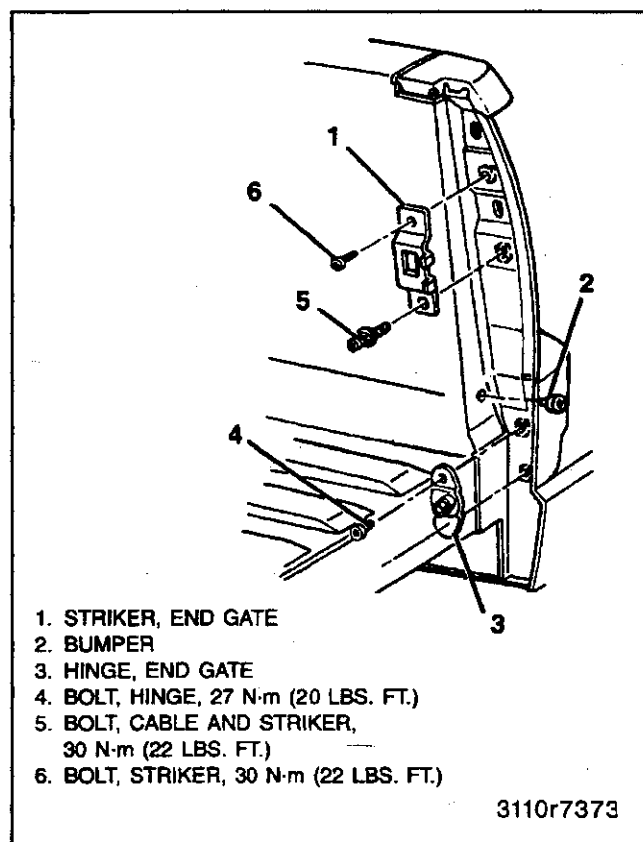

Figure 2—Side Panel Striker and Hinge Components
1. Cable on each side from the side panel striker bolts (figure 2).
1. End gate to side panel hinge assemblies holding the gate at a 45-degree angle (figure 2).
2. Cable on each side onto the side panel striker bolts (figure 2).
**Remove or Disconnect (Figure 2)**
**Install or Connect (Figure 2)**
### Remove or Disconnect (Figure 2)
### Install or Connect (Figure 2)